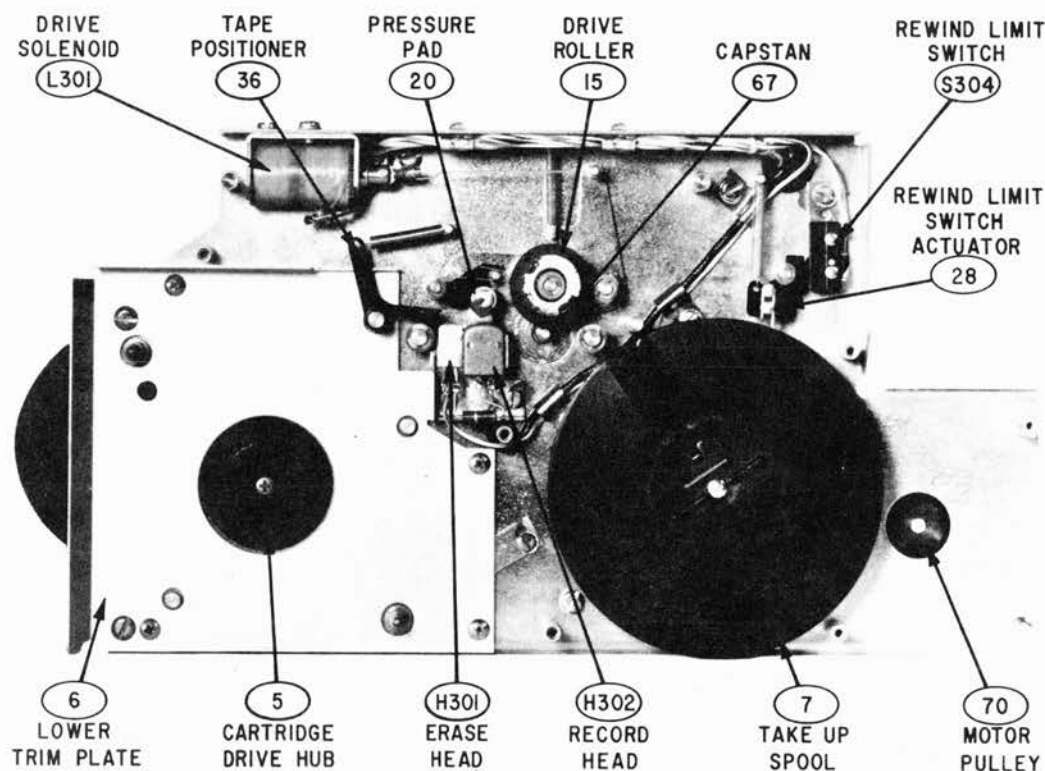

FIGURE 19 "B" DECK TOP VIEW, TRIM PLATES REMOVED
- (4) With swab moistened in alcohol, clean Record Head, Erase Head, Drive Roller, and Capstan (fig. 19). Do not clean the Pressure Pad.
- (1) Remove the "B" Deck (page 12).
- (2) With cloth moistened in alcohol, clean the Drive Belts, Flywheel, Motor Pulley, Rewind Roller, Fast Forward Roller, Supply Drum, and Take Up Drum (figs. 19 and 21).
These adjustments must be made whenever the Record Head (fig. 19) is replaced.
- (2) Play back the message from this Tape Cartridge and carefully adjust the two small screws on the head mount for maximum loudness.
- (3) Loosen clamp screw and rotate pressure pad mount to adjust the Pressure Pad (fig. 19) for maximum loudness.
b. Drive Solenoid (fig. 19):
- (1) Depress solenoid plunger only with sharp instrument.
- (2) Plunger should travel 1/32" before bottoming after Drive Roller contacts Capstan (fig. 19).
- d. Slip Tape Positioner (fig. 19) off its shaft. Remove 4 Phillips head screws and Lower
- e. Remove Phillips head screw and Cartridge Drive Hub (fig. 19).
- f. Remove Phillips head screw and Take Up Spool. Hold Rewind Limit Switch Actuator (fig. 19) out while removing spool.